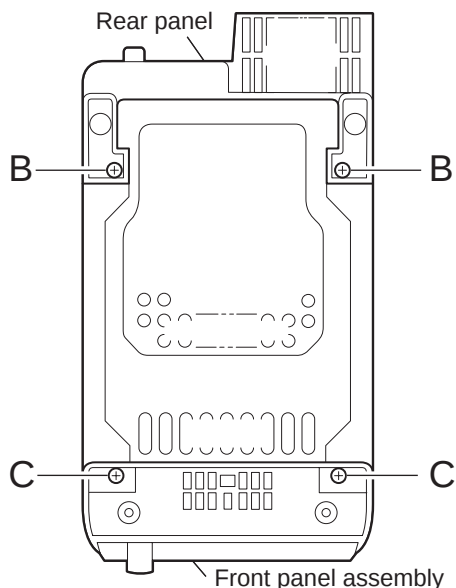

Fig.2
(See Fig.2~5)
- (1) While moving the trigger arm on the right side of the head mount in the direction of the arrow, turn the flywheel R counterclockwise until the head mount comes ahead and clicks.
- (2) The head turns counterclockwise as you turn the flywheel R counterclockwise (See Fig.2 and 3).
- (3) Disconnect the flexible wire from connector CN31 on the head amplifier & mechanism control board.
- (4) Remove the spring from the back of the head.
- (5) Loosen the azimuth screw for reversing attaching the head.
- (6) Remove the head on the front side of the head mount.